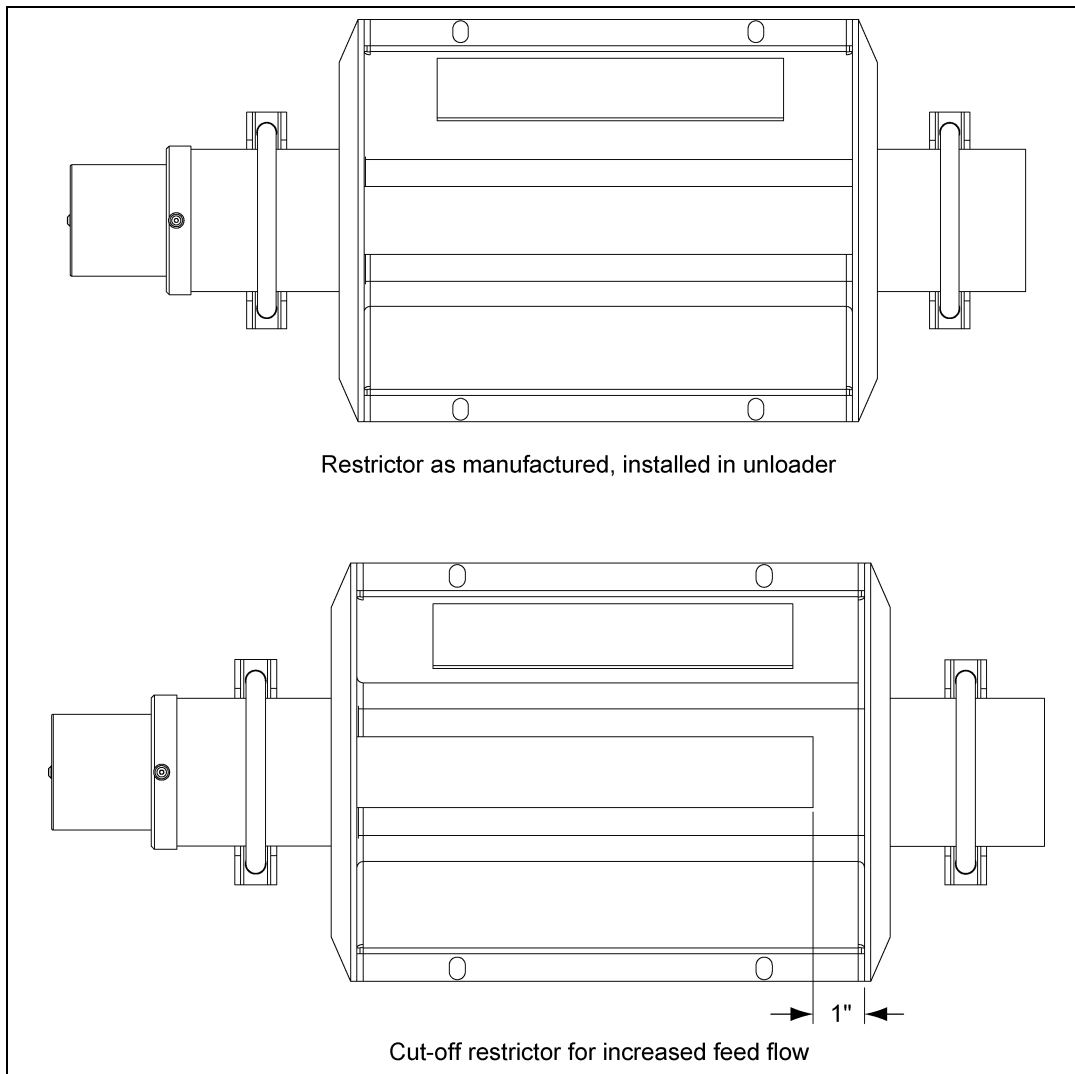

Figure 5G *Restrictor Adjustment*
2. Cut 1" (2.5 cm) from the restrictor. *(See Figure 5G.)*